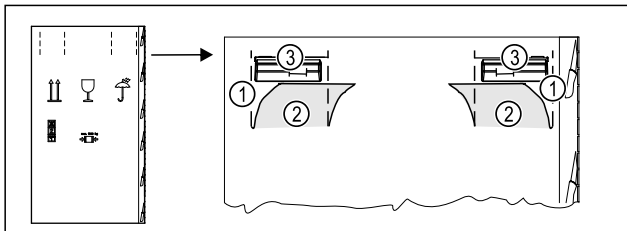

Fig. 4
- ▶ Press in the packaging carton at the top of the perforation Fig. 4 (1).
- ▶ Pull out the pressed-in flaps Fig. 4 (2).
- ▶ The right and left carrying handles Fig. 4 (3) are visible.
- ▶ Hold the appliance by the carrying handles Fig. 4 (3).